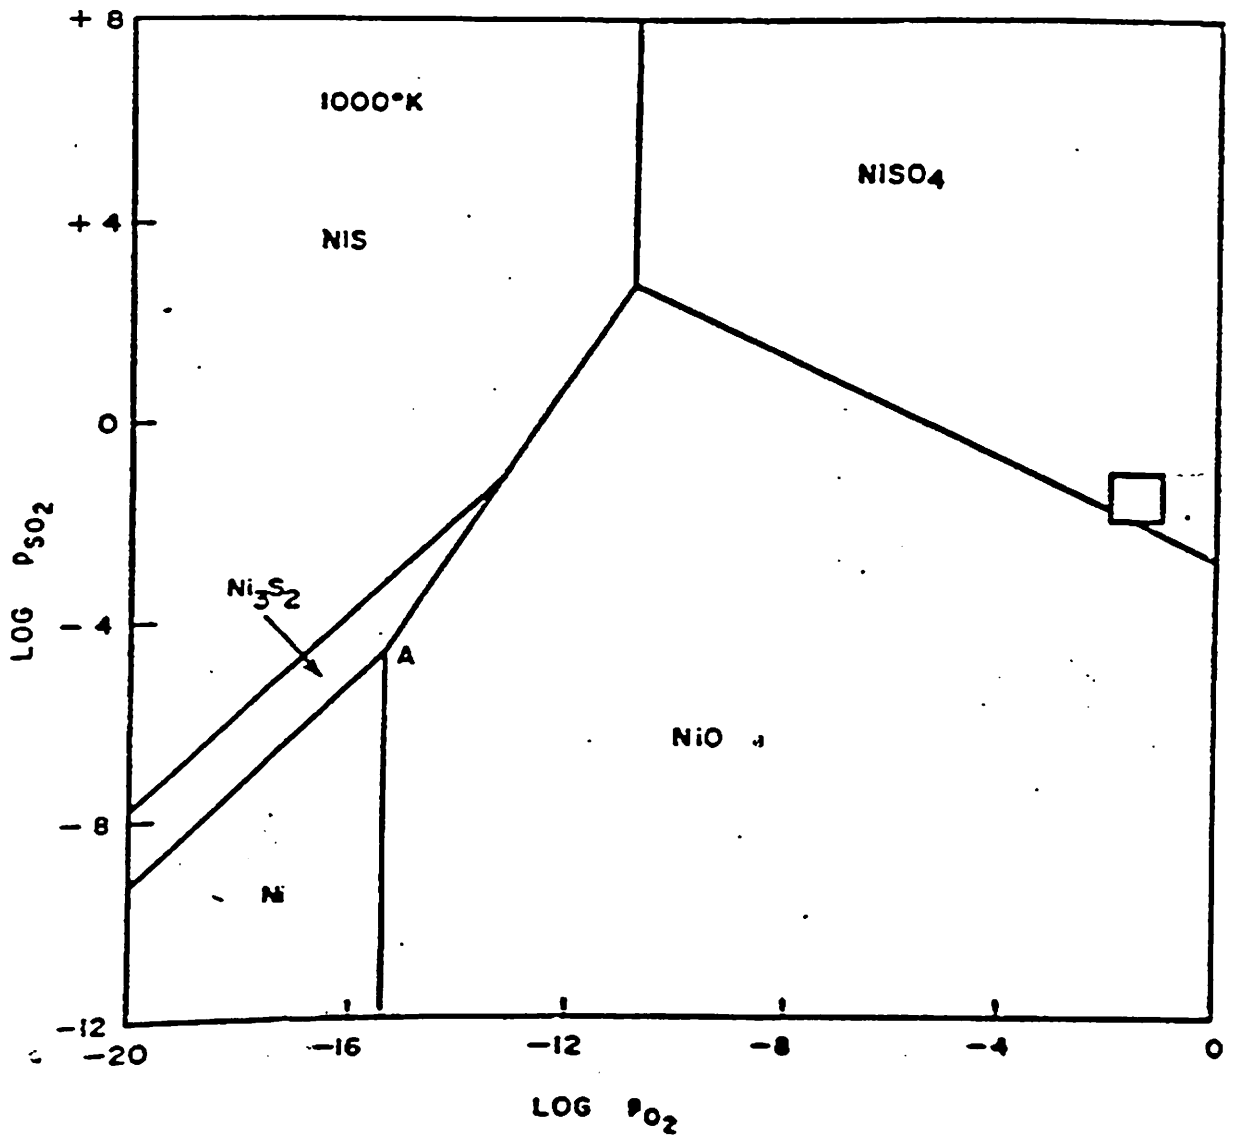

Figure 6.0 Predominance Area Diagram for Ni-S-O System at 1000 °K
- (b) Using the predominance area diagram for the Ni – S – O system given in Figure 6.0 to answer the following questions: